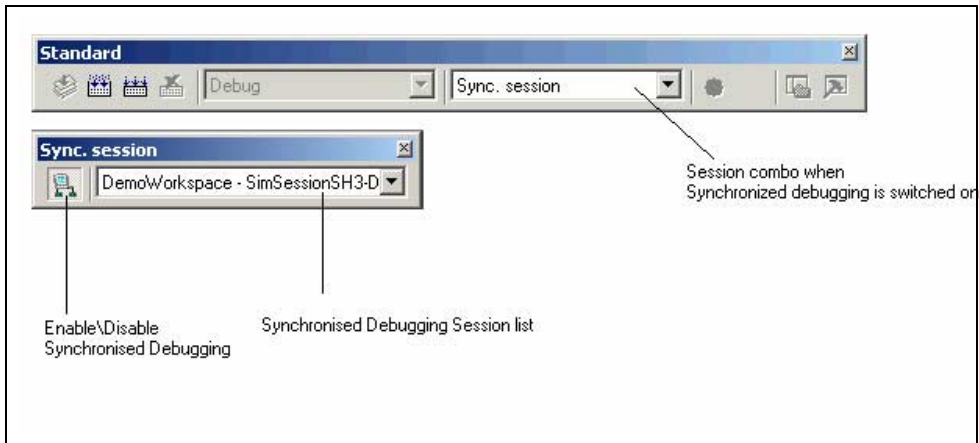

Figure 4.92 Synchronized debug toolbars
2. Click on the session combo-box located on the standard toolbar. Select the Synch. Debug selection. This is shown in figure 4.92. This option is only available when synchronized debugging has been added to the system.
3. Once selected the HEW debugger enables the Synchronized debugging facilities. This means the addition of another toolbar this is named Sync. session. This can also be viewed in Figure 4.92.